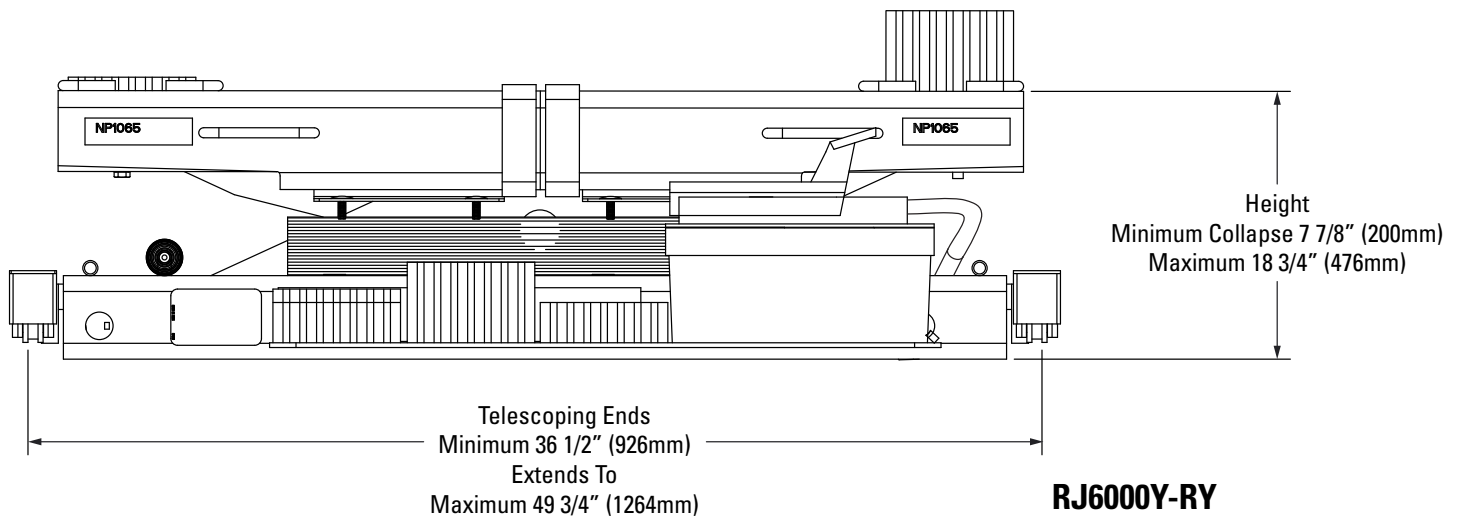

Fig. 4
- D. RJ6000Y-RY: The rail engaging wheels shall be adjustable for an inside runway width of 36 1/2" (926 mm) minimum to a 49 3/4" (1266 mm) maximum Fig. 4.
- E. The rolling jack shall be equipped with two (2) different sized rubber pads 1 1/2" and 3".
- H. The rolling jack shall be moveable on four (4) heavy duty urethane compression wheels. Actual vehicle load to be transferred to jack end section load bars engaging the roller track assembly.